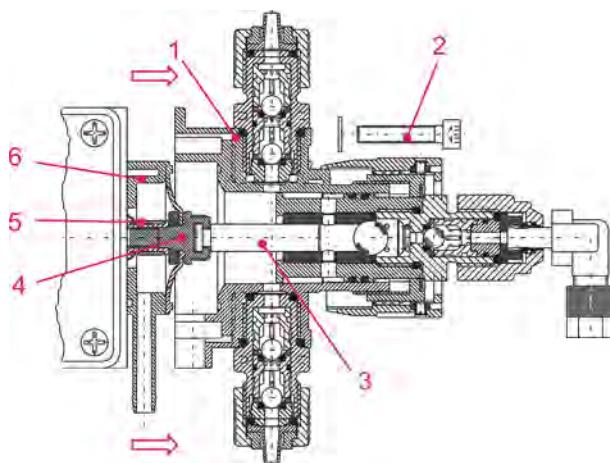

Fig. 87: Maintenance: Replacing the diaphragm and pump head
6. Metering head screws (Chapter 11.2 'Replacing the diaphragm and pump head' on page 110, Fig. 87 (stable seat, 3 - 4 Nm).